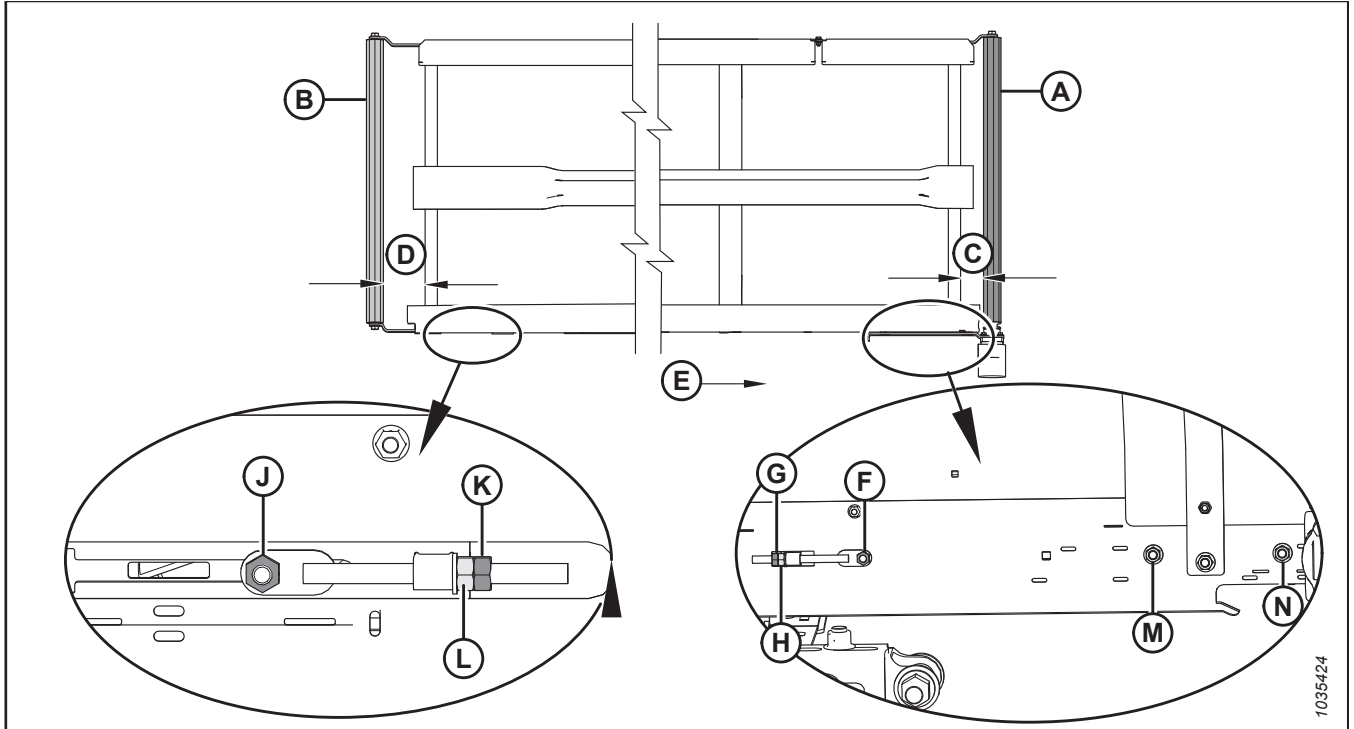

Figure 9.15: Draper Tracking Adjustments – Left Draper
2. Adjust drive roller (A) to change **C** (refer to Table 9.5, page 607 and Figure 9.15, page 607) as follows:
- a. Loosen nuts (F), (M), and (N), and jam nut (G).
- b. Turn adjuster nut (H).
- c. Tighten nuts (F), (M), and (N), and jam nut (G).
3. Adjust idler roller (B) to change **D** (refer to Table 9.5, page 607 and Figure 9.15, page 607) as follows:
- a. Loosen nut (J) and jam nut (K).
- b. Turn adjuster nut (L).